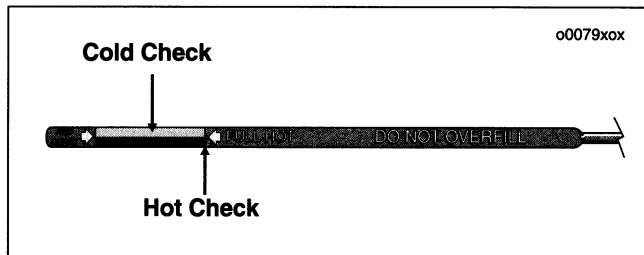

Figure 31. Engine Oil Level
2. See Figure 31. Remove the dipstick and note the level of the oil. Oil level should register between the two arrows on the dipstick.